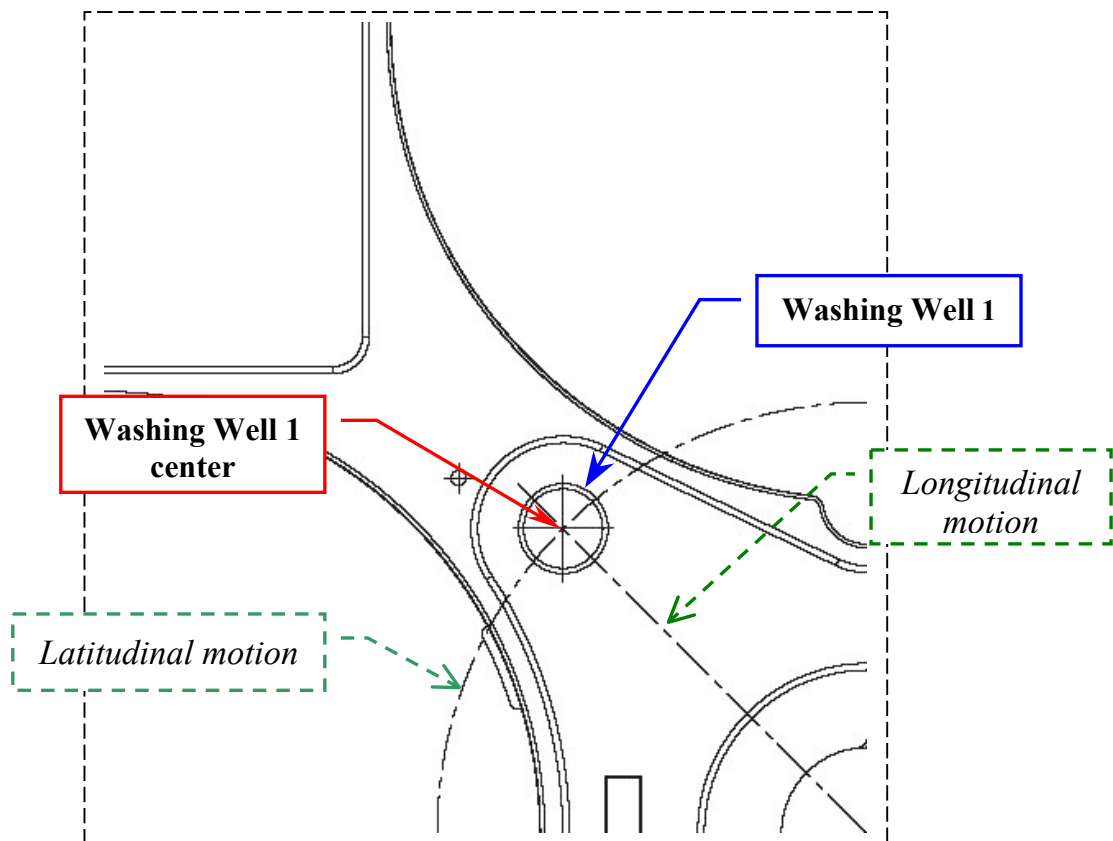

Fig. 5 – Longitudinal and latitudinal motion of the Sampling Probe
- a. if the Sampling Probe is not latitudinal centered with respect to the Washing Well 1 (**Fig. 5**), adjust in the following way:
- e. rotate slightly the Sampling Arm in the right toward in order to obtain the latitudinal centering with respect to the Washing Well 1 (**Fig. 5**);
- h. if the Sampling Probe is not longitudinal centered with respect to the Washing Well 1 (**Fig. 5**), adjust in the following way:
- l. rotate slightly the Sampling Arm in the right toward in order to obtain the longitudinal centering with respect to the Washing Well 1 (**Fig. 5**);